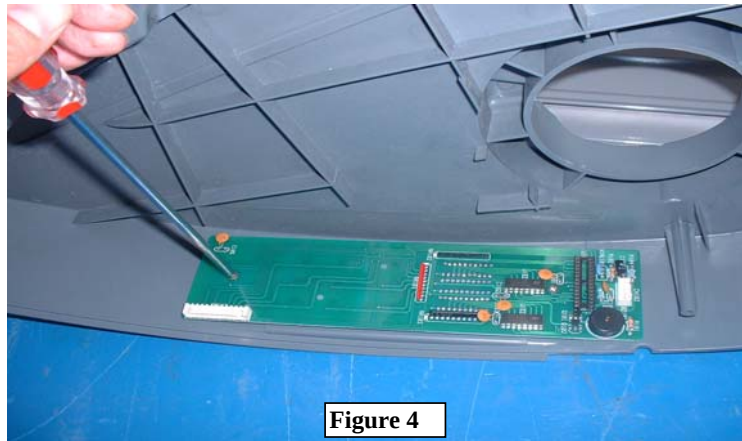

Figure 4
4. Take out two Sub-PCB screws. Figure 4